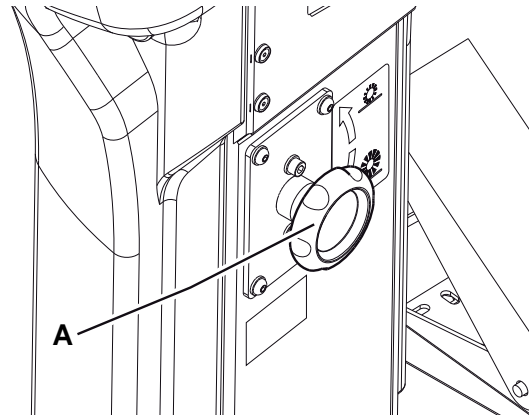

Figure 4
2. Turn the knob (A, Fig. 4) as shown below:
- To decrease the print width, lift the broom with the lever (80) and turn the knob clockwise